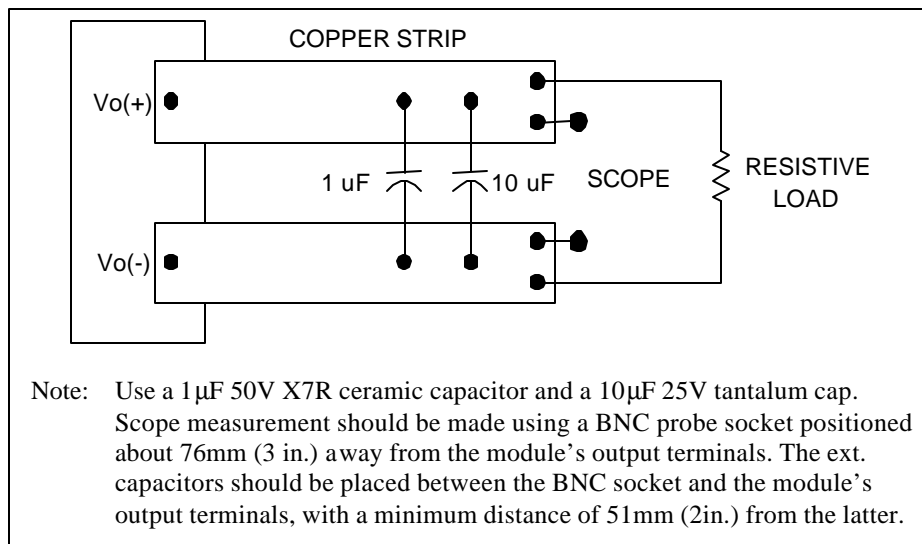

Figure 2. Peak to Peak Output Noise Measurement Setup.
- Note: 3. See Figure 2 for Ripple and Noise test measurement setup.